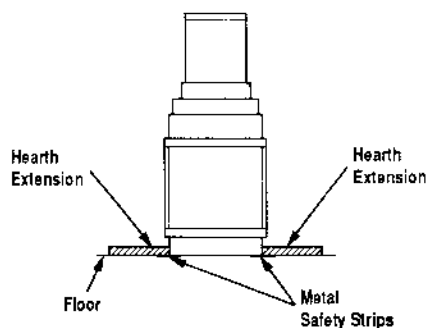

Figure 4
Step 1. Slide Peninsula into prepared framing or position fireplace in its final position and frame later. (Figure 4).